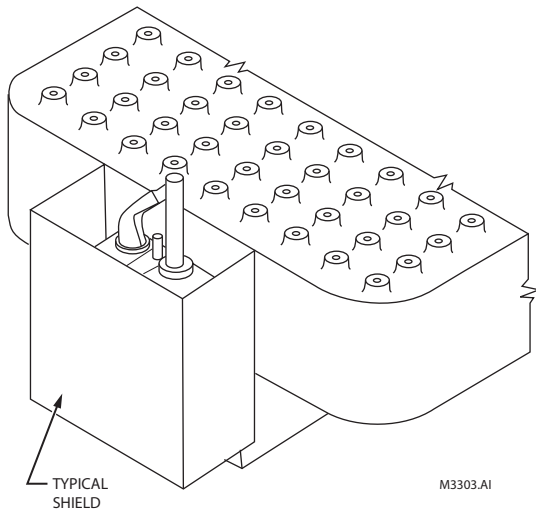

Fig. 25. Proper shielding of pilot flame (Q350 shown)
2. If all Location instructions are followed but pilot flame continues to go out, construct shielding to protect the pilot flame from the main burner ignition and extinction and drafts. See Fig. 25.
Excessive cold-junction temperatures can be caused by heat radiation from adjacent surfaces or high ambient air temperatures. Excessive cold-junction temperatures can be eliminated by shielding the pilot flame, see Fig. 25, or constructing a baffle to direct secondary air over the pilot burner base.